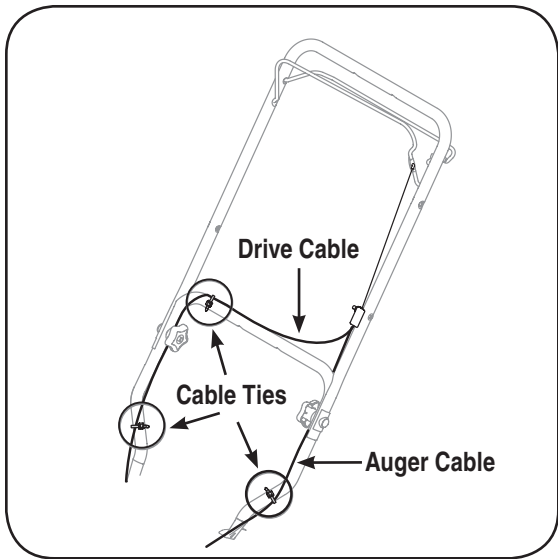

Figure 5
1. Make sure that the drive cable is routed parallel to the left upper handle, then across the top of the lower handle and finally parallel to the right lower handle. See Figure 5.
2. Three cable ties have been used to loosely tie the two control cables to the lower handle. Two of these cable ties are on each arm, and the third on the top cross bar of the lower handle. Tighten these cable ties to secure the cable to the lower handle. See Figure 5.